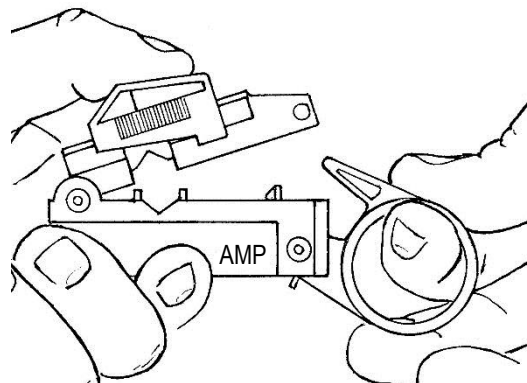

Figure 4
2. Open tool by rotating locking latch downward, as shown in Figure 4.